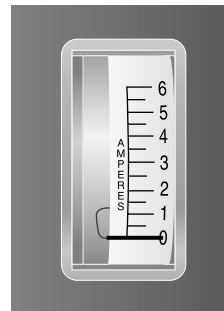

Figure 11. Ammeter Indicates Batteries Are Fully Charged
You can also check the charge by the ammeter, located at the rear of the scooter near the charger power cord receptacle. The charger power cord must be plugged into a standard wall outlet in order to obtain a reading. When the amperage reading is at or near zero (0) amps, the batteries have a full charge. See figure 11.